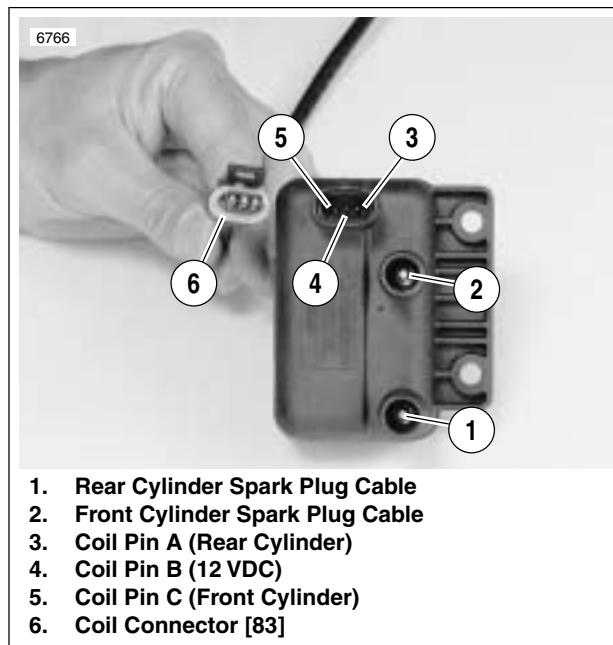

Figure 4-54. Ignition Coil
See Figure 4-54. The coil receives power from the ignition relay at coil pin B (4) at the same time that the fuel pump and injectors are activated. The fuel pump is active for the first two seconds after the ignition switch is turned ON and then shuts off until RPM is detected from the cam position sensors, at which time it is reactivated.